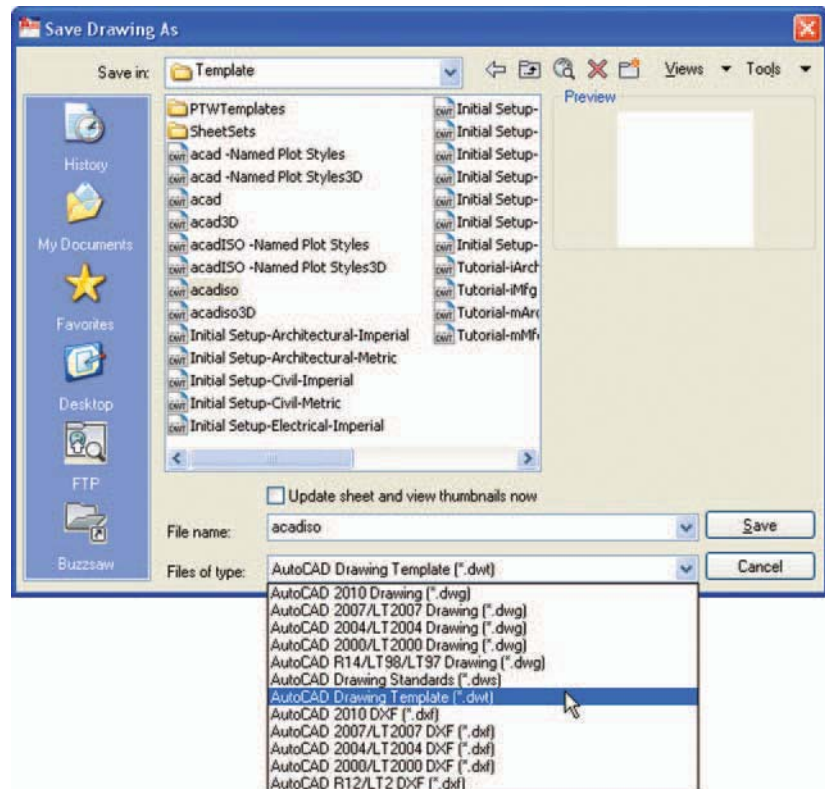

Fig. 4.21 Saving the template to the name **acadiso.dwt**
2. In the **Save Drawing As** dialog which comes on screen (Fig. 4.21), *click* the arrow to the right of the **Files of type** field and in the pop-up list associated with the field *click* on **AutoCAD Drawing Template (*.dwt)**. The list of template files in the **AutoCAD 2010/Template** directory appears in the file list.